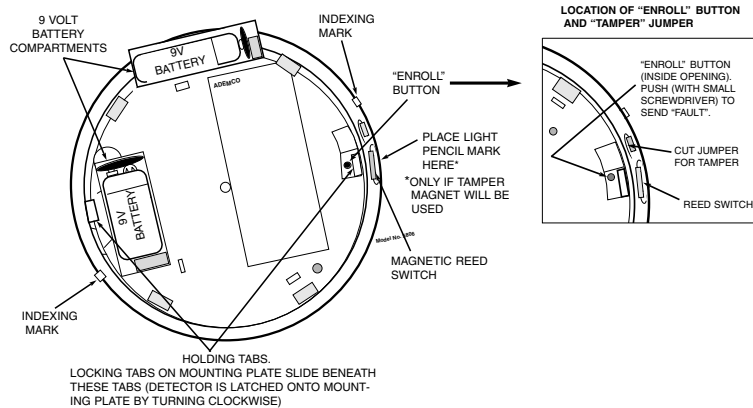

Figure 1. Bottom View of Smoke Detector (without mounting plate)
2. Install the new 9-volt alkaline batteries in their respective compartments as follows: Snap the battery contacts onto the terminals of the first battery (be sure to observe correct polarity and do not force battery clips). Holding the contacts on the battery, install the battery into its compartment. Make sure the battery is fully seated (see Figure 1).
The control system must "enroll" the smoke detector's ID during installation of the system. The control should be programmed to "enroll" the 5806 as an "RF" type unit (i.e., supervised RF), with a loop number of "1." With the control in the programming mode, you can either manually enter the serial number or transmit from the device (push the "Enroll" button [see Figure 1], install the battery, etc.). See the control unit's installation instructions for further details.
For tamper protection, cut the wire jumper indicated in Figure 1. After the detector has been mounted, a magnet must then be installed on the wall or ceiling next to the detector.
To ensure proper positioning of the magnet after the detector has been mounted, place a light pencil mark on the side of the detector near the center of the reed switch (see Fig. 1).